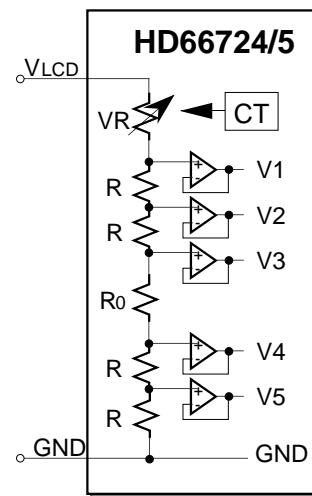

Figure 40 Contrast Adjuster
Contrast for an LCD can be adjusted by varying the liquid-crystal drive voltage (potential difference between V_{LCD} and V1) through the CT bits of the contrast control instruction (electron volume function). See figure 40 and table 37. The value of a variable resistor (VR) can be adjusted within a range from $0.1 \times R$ through $3.2 \times R$, where R is a reference resistance obtained by dividing the total resistance between V_{LCD} and V1.